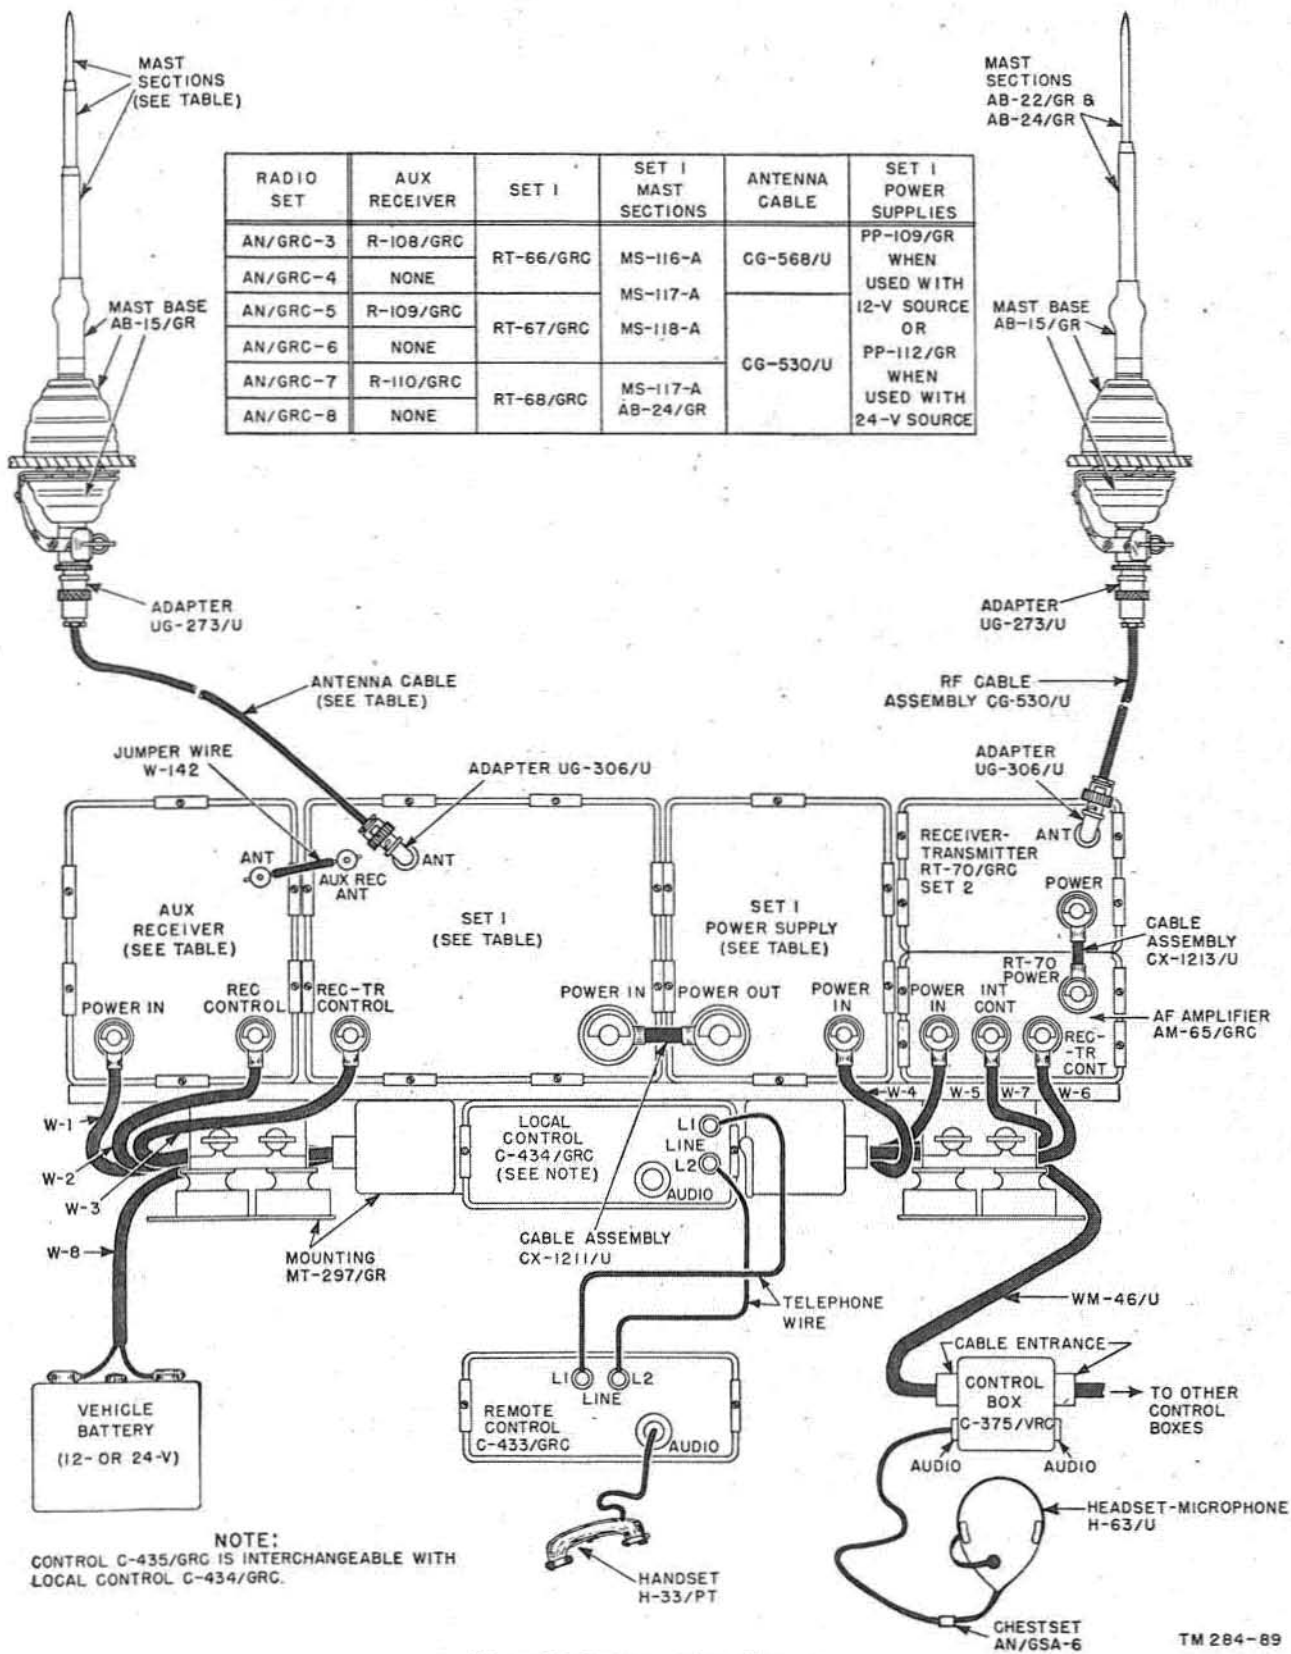

Figure 29. System cordage diagram.
(fig. 29)
- (1) If more than one Control Box C-375/VRC is used in the system, set the switch at TANK.
- (2) If one Control Box C-375/VRC is used in the system, set the switch at VEH.
a. Place the OPERATE switch of the Set 1 Power Supply PP-109/GR or PP-112/GR in the OFF position, and secure the unit on the mounting beside AF Amplifier AM-65/GRC (fig. 29). Use Power Supply PP-109/GR in 12-volt systems and Power Supply PP-112/GR in 24-volt systems.
b. Place and lock the Set 1 receiver-transmitter on the mounting next to the power supply. Refer to figure 29 for the particular receiver-transmitter used in each system.
Instructions for the auxiliary receivers apply only to Radio Sets AN/GRC-3, -5, and -7. Figure 29 indicates which receiver is applicable to each set.
Make the system interconnections outlined below and illustrated on figure 29.
b. Connect Adapter UG-306/U to the ANT connector on Set 1. Connect one end of the antenna cable (RF Cable Assembly CG-568/U or CG-530/U as indicated in figure 29) to the adapter; connect the other end of the cable to the Set 1 mast base (par. 33).